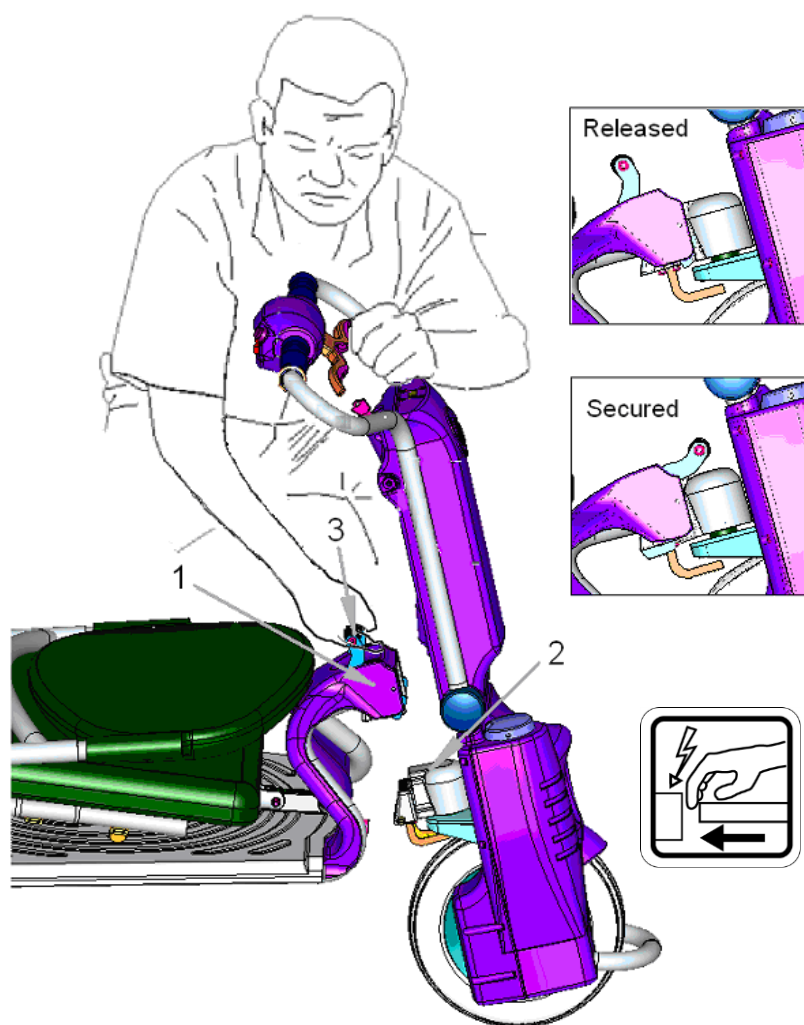

Figure 3
Refer to figure 3: The frame bushing (1) is inserted onto the tiller tapered block (2) . It is also the fixation of the tiller to the frame by means of a locking lever (3).
We advise you to approach the frame from the left hand side (when you are right-handed. Take the tiller in your left hand, holding it at the frame tube just above the control panel. Make sure you hold it up straight and tilt it backwards slightly as indicated in **figure 3**.
Lift the frame bushing (1) by mean of the lever (3) using your right hand as shown in **figure 3** . Now place the frame bushing over the tapered block (2) of the tiller. Than after they attached together push the lever (3) forward and downward until it lock them together . Make sure that you hear a clicks that will ensure you completely secured connection. Please refer to **figure 3** to the differences between the two positions : Released and Secured . Also make sure that the connection is done properly by means of tilting the tiller forward and backward . The electrical connections between the tiller and the frame is done at the same stage .